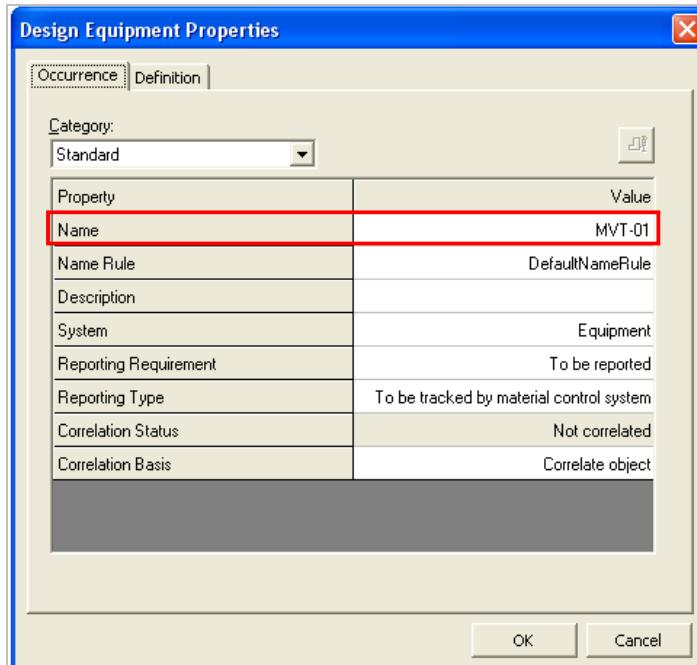

Figure 41: Design Equipment Properties Dialog Box
5. Click OK. The Design Equipment Properties dialog box opens, as shown in Figure 41.